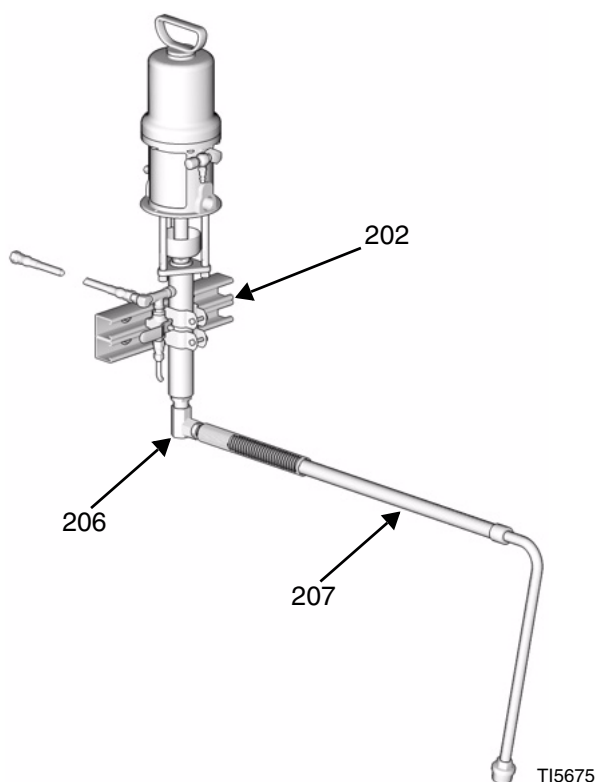

FIG. 1: Solvent Flush Kit
- a. See FIG. 1. Install pump using mounting bracket (202) and hardware supplied. Mount bracket on wall, back of proportioner stand, or cart.